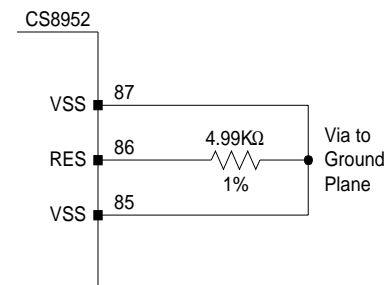

Figure 7. Biasing Resistor Connection and Layout
- The 4.99K reference resistor should be placed as close to the RES pin as possible. Connect the other end of this resistor to the ground plane using a via. Connect the adjacent VSS pins (pins 85 and 87) to the grounded end of the resistor forming a shield as illustrated in Figure 7.